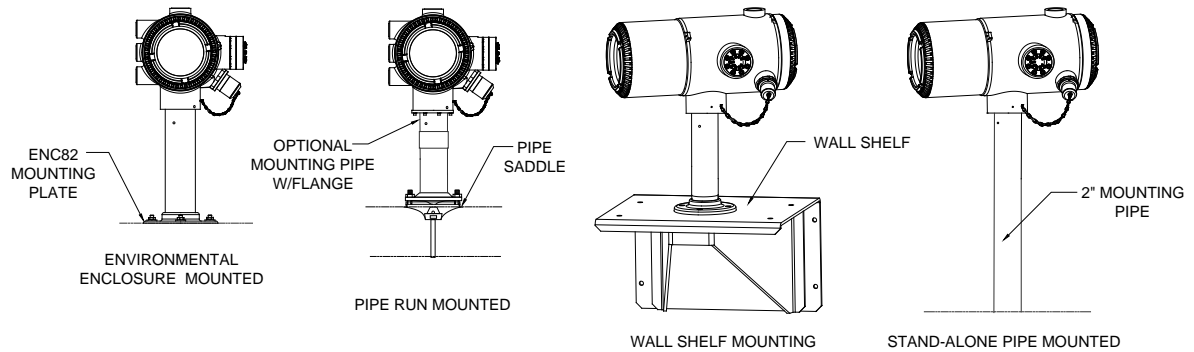

Figure 3-21 NGC Mounting
- 1) Position the NGC on top of the 2" pipe stand (see Figure 3-21), in close approximation to correct orientation.